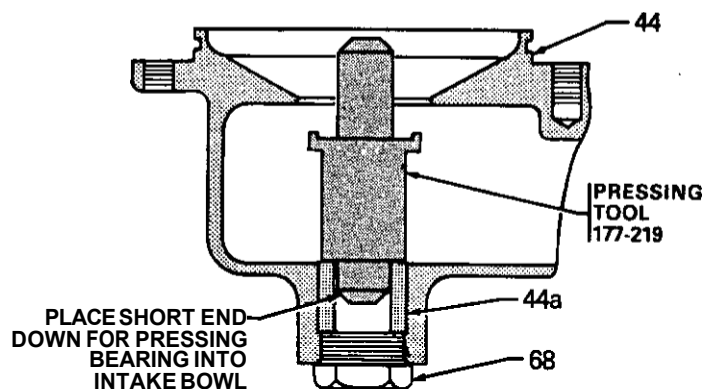

Fig 10
- c. Thread the plug (68) into the bottom of the intake bowl as shown in Fig 10. **DO NOT** install the gasket (69).
- d. Use tool 177-219 to press the new bearing into the intake bowl until it bottoms against the plug (68). Refer to Fig 10.
- e. Check the bearings for concentricity. Place the checking fixture 177-218 on the bowl as shown in Fig 10. Drop one end of the checking tool 177-217 into the center hole of the fixture. The tool should turn freely without binding. If the tool binds, the bearings must be replaced.